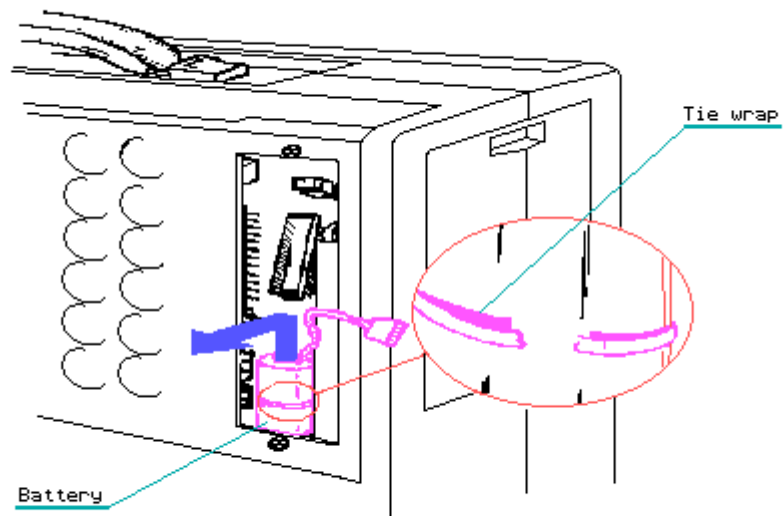

Figure 7.15-2. Removing the Battery
3. Carefully lift the battery from its velcro mounting and out of the chassis (Figure 7.15-2).